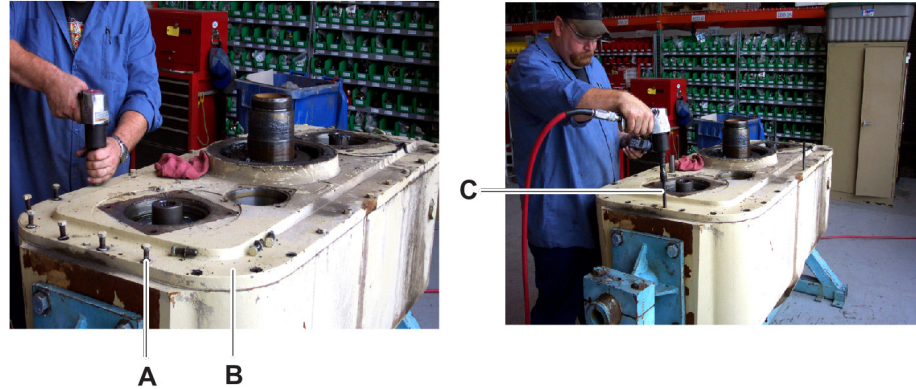

Figure 15
16. Remove all cover cap screws (Figure 15, item A). Install four jacking bolts (item C) in the threaded holes provided in the housing cover (item B) as shown. Slowly tighten the jacking bolts alternately to break the cover seal and partially lift the cover from the housing.